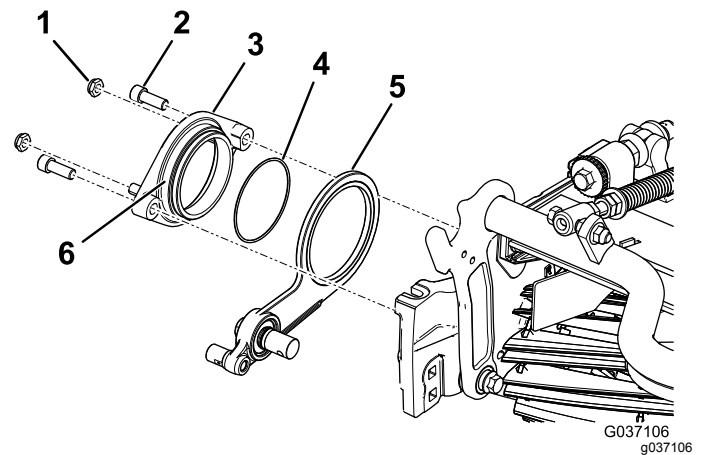

Figure 9
3. Apply anti-seize compound on the outside diameter of the pivot-hub assembly (Figure 9).
4. Secure the pivot hub over the idler assembly to the reel using 2 hex-socket bolts (Figure 9).
5. Loosely install the 2 locknuts on the pivot hub (Figure 9).